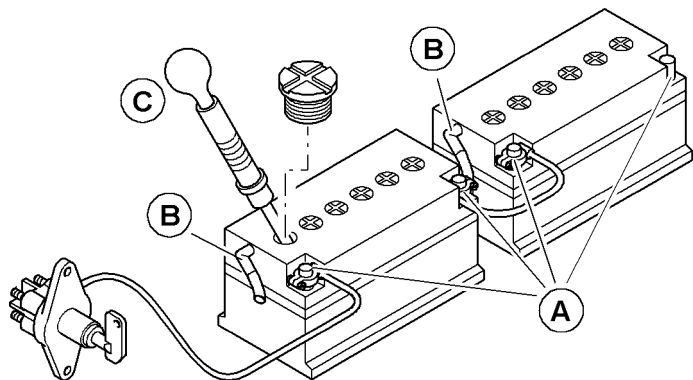

Fig. 5-67 Battery care
- ▶ Particular care should be taken to clean the pole ends and cable terminals **A** regularly and to then cover them with a thick layer of acidproof grease (siehe Fig. 5-67).
- ▶ Check the condition of the hoses **B** regularly, particularly after installing a battery (siehe Fig. 5-67).